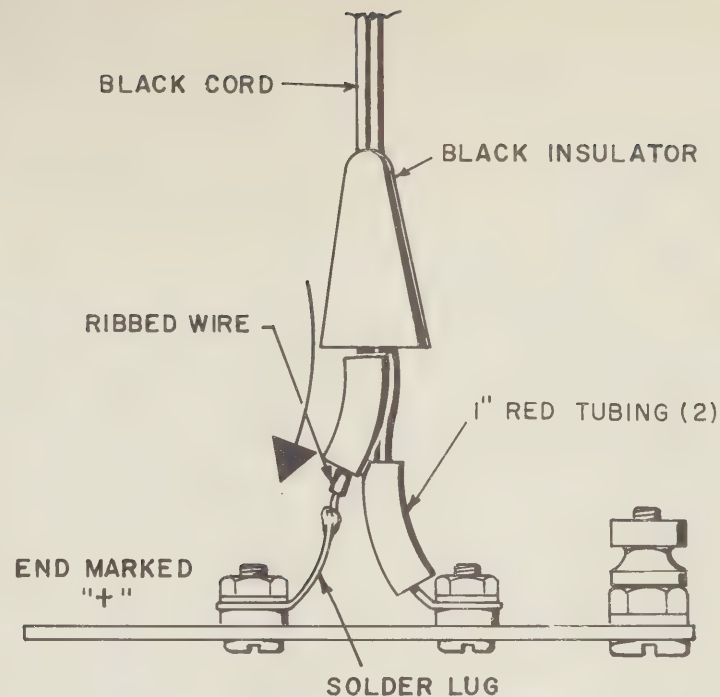

FIGURE 21. SHUNT WIRING
- ☐ Two solder lugs. Mount with two 6-32 screws, flatwashers, lockwashers, and nuts. Bend the two solder lugs up as shown in Figure 21.
SEE FIGURE 21